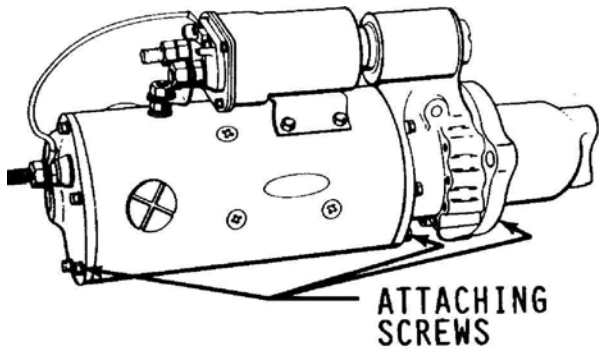

Figure 2-6. Location of Housing Attaching Screws
- 7) **Housing Attaching Screws.** If starter produces excessive noise because a housing is not securely fastened, check and/or torque attaching screws (fig. 2-6) to 144-192 lb-in (16.3 to 21.7 N•m).